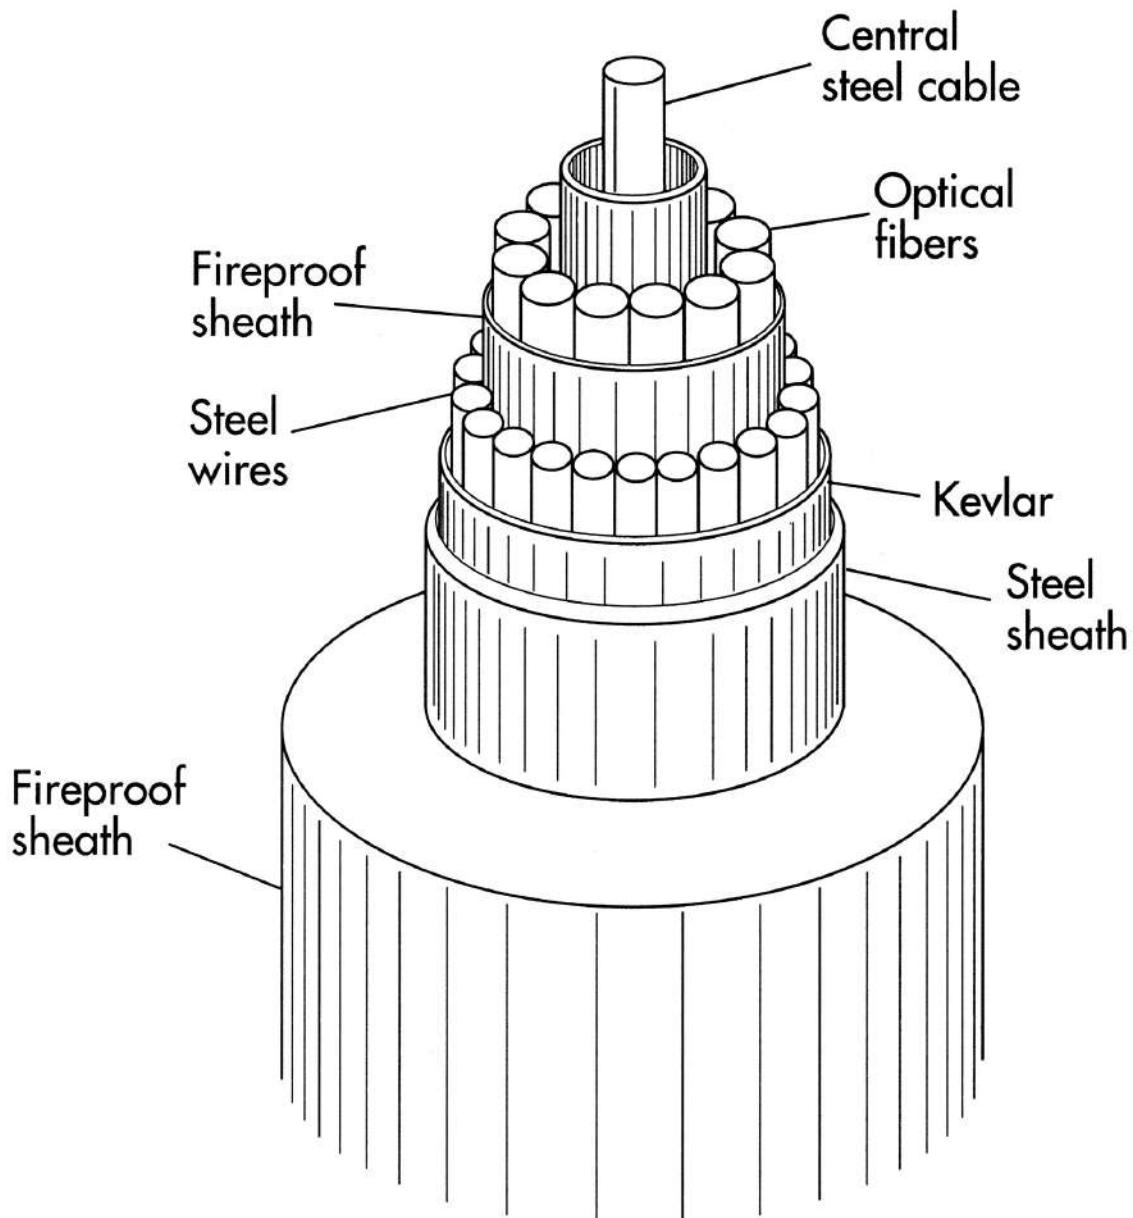

Figure 1. Parts of a fiber-optic cable.
Figure 1. A comparison of CD, DVD, and Blu-ray optical discs, illustrating a cross section representation of each, with dimensions exaggerated for clarity. The data layer for the CD is farthest from the reading laser, just below the label. Single-layer DVDs have their data embedded in the center of the disc. For Blu-ray discs, the data is closest to the reading laser. Also note that the size of the data pits (and the laser spot to read them) are largest for the CD and smallest for the Blu-ray disc. Smaller pits mean more tightly packed data for the same area.
12. For CDs, the data layer is 0.0433 inch (1.1 mm) below the readable side of the disc. The data layer for DVDs is in the center, which is 0.0236 inch (0.6 mm) in. Blu-ray discs have their readable layer closest to the surface, a mere 0.0039 inch (0.1 mm) deep (see figure 1).